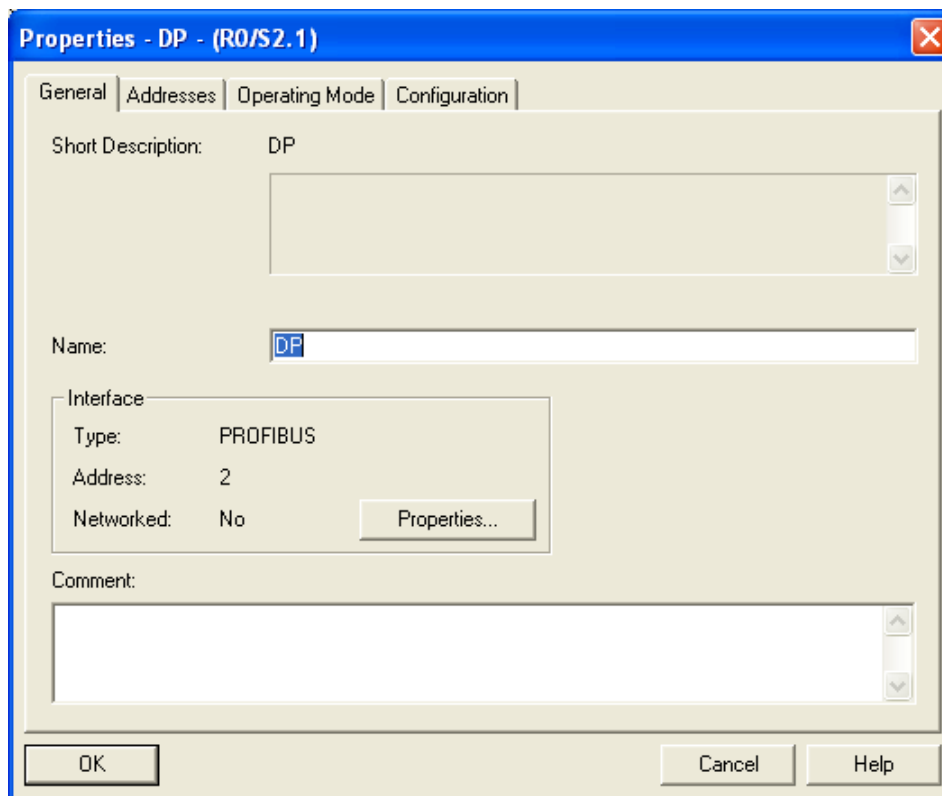

Figure 7-11
3. Click “Properties” in the dialog box, leading to another dialog box. See Figure 7-11.